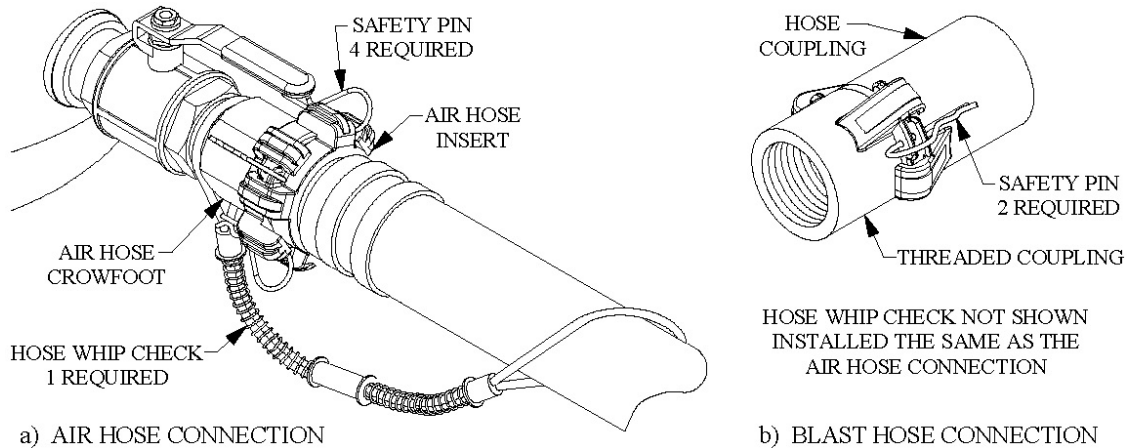

Figure 8.2 – Hose Connection Disconnect Protection
- 8.7. **Blast and Air Hose Couplings:** All air hose, blast hose, and threaded couplings have two pin holes that align when connected. To protect against accidental hose disconnections safety pins must be installed through these holes. Each hose connection must also include a hose whip check that will hold the hose if there is an accidental disconnection. Connect one loop to each side of the connection and stretch out as shown in Figure 8.2 below. Check hose connections daily and replace missing or damaged pins and whip checks.